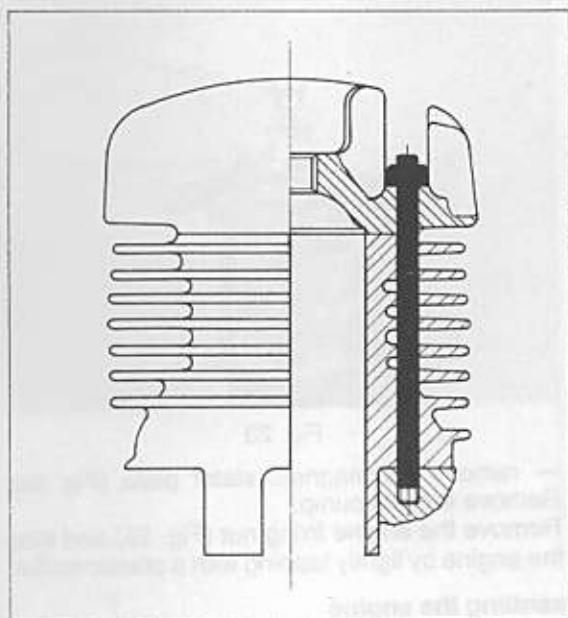
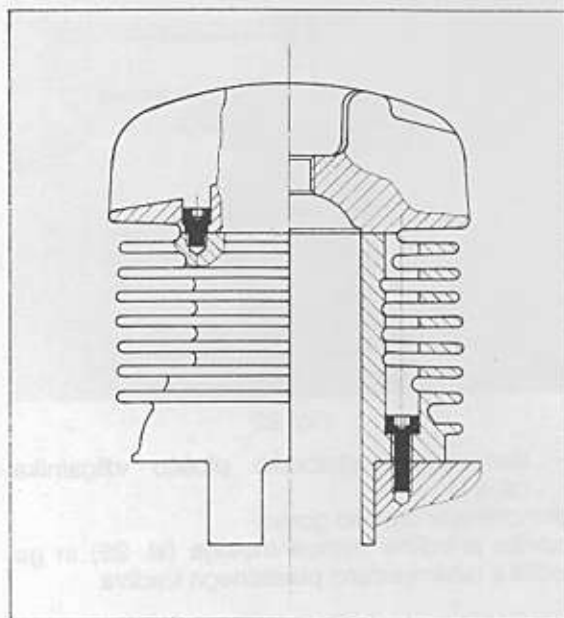

Fig. 16
Fig. 17
3. Dismount the cylinder head and cylinder (Figs. 16 and 17); Fig. 16 shows attachment of cylinder with a 60 cc execution and Fig. 17 shows attachment of cylinder and cylinder head with an 80 cc execution.
3. Smontare la testa cilindro ed il cilindro (Fig. 16 e 17). La Fig. 16 mostra un cilindro di 60 cm³, mentre la Fig. 17 mostra un cilindro di 80 cm³.